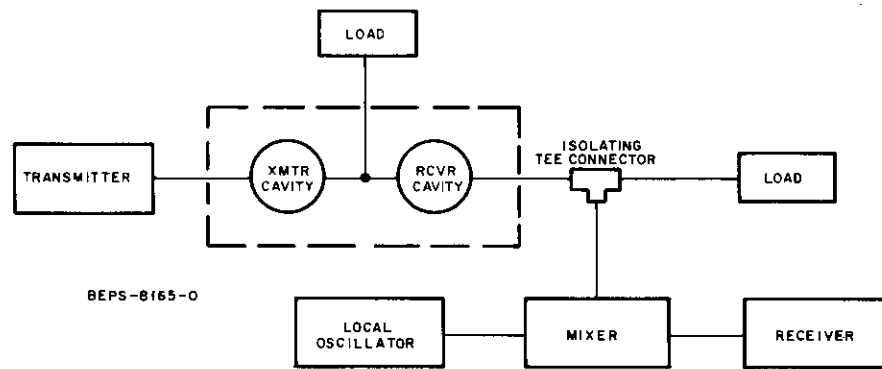

Figure 10. Method 2 Receiver Branch
Step 10. Connect the equipment as shown in Figure 10.
Step 8. Connect the equipment as shown in Figure 10.